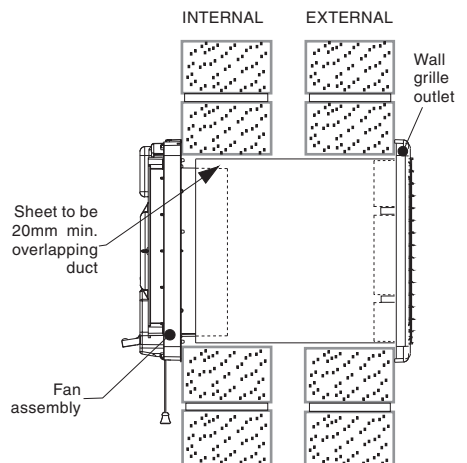

Fig. 8
11. Slide the Wall Grille Outlet/PVC sheet assembly into the  $\text{\O} 180\text{mm}$  hole from the external wall, ensuring that the PVC sheet overlaps the duct on the fan assembly by a minimum of 20mm (Fig. 8).